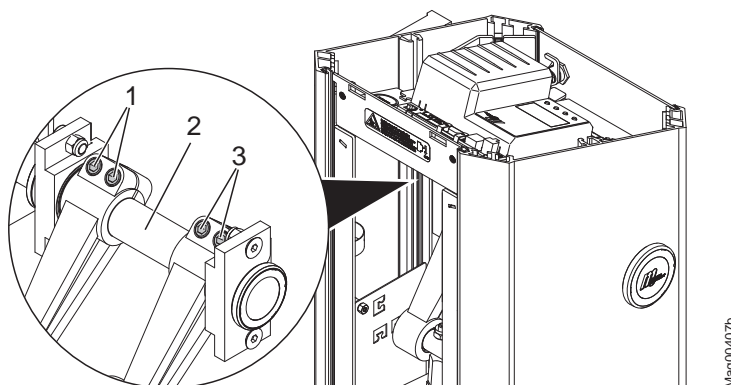
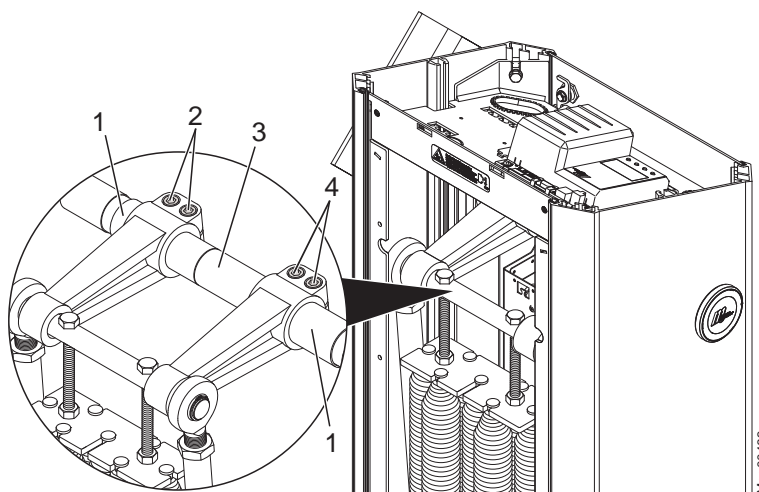

Fig. 31: Access XL Loosen hexagon socket screw
Fig. 32: Access XXL Loosen hexagon socket screw
- Loosen the 4 hexagon socket screws 10 AF at the two clamping levers. Do not remove the hexagon socket screws. → For Access XL see page 68, Fig. 31 and for Access XXL see page 68, Fig. 32.
→ For Access XL see page 68, Fig. 31 and for Access XXL see page 68, Fig. 32.